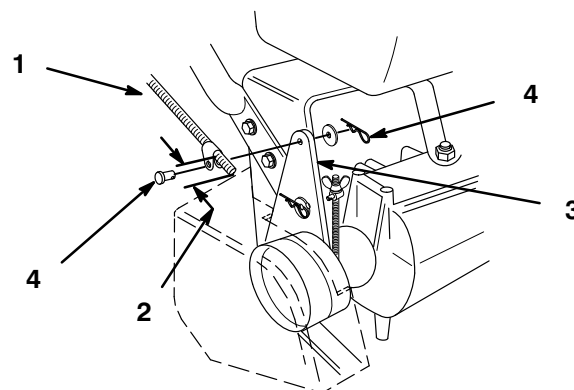
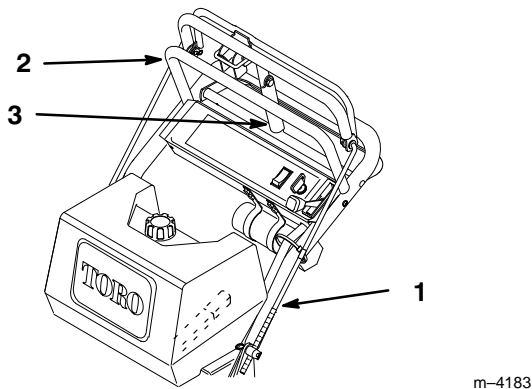

Figure 7
Figure 8
1. Thread a rod fitting onto each control rod approximately 2 in. (51 mm) (Fig. 7) or until upper control bar (Fig. 8). is approximately perpendicular to the ground.
2. Mount rod fitting ends to mounting holes in idler brackets (from outside) with clevis pins, washers and hairpin cotters (Fig. 7).
3. Check gap between upper control bar and upper handle when fully engaging wheel belts. Gap should be approximately 1 to 1-1/4 in. (25–32 mm) (Fig. 8).
5. Brake rods should be adjusted so parking brake lever can be swung into a snug position against the upper handle while pulling back on upper control bar (Fig. 8).